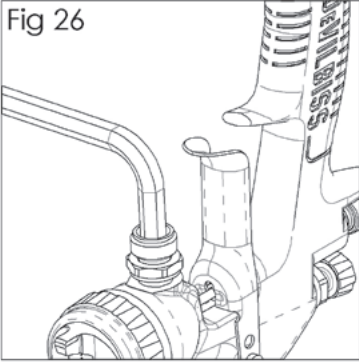

Fig 27
3. Remove fluid inlet adaptor (See Fig. 27).
5. Replace fluid inlet adaptor (See Fig. 27)